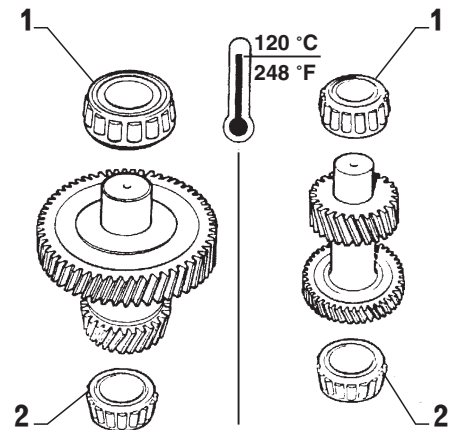

FIG. 2-1
Heat inner races of tapered roller bearings (item 1 and 2, Fig. 2-1) to approx. 120°C (248°F) and push them onto the intermediate or reversal shaft up against the shaft collar.